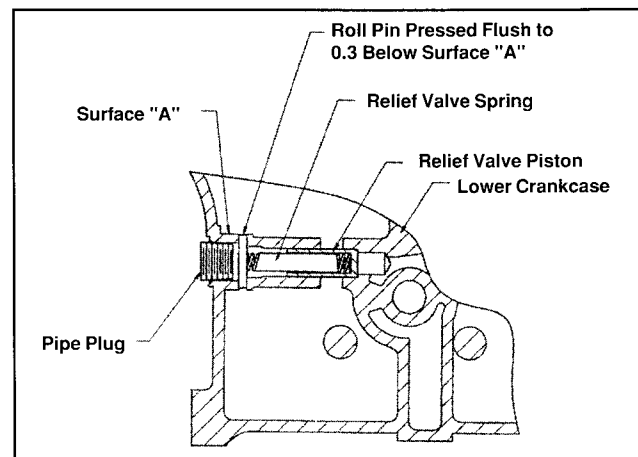

**Figure 11-6. Installing Oil Pick-up Screen.**
1. Install the oil pick-up filtering screen inside the lower crankcase half. See Figure 11-6.